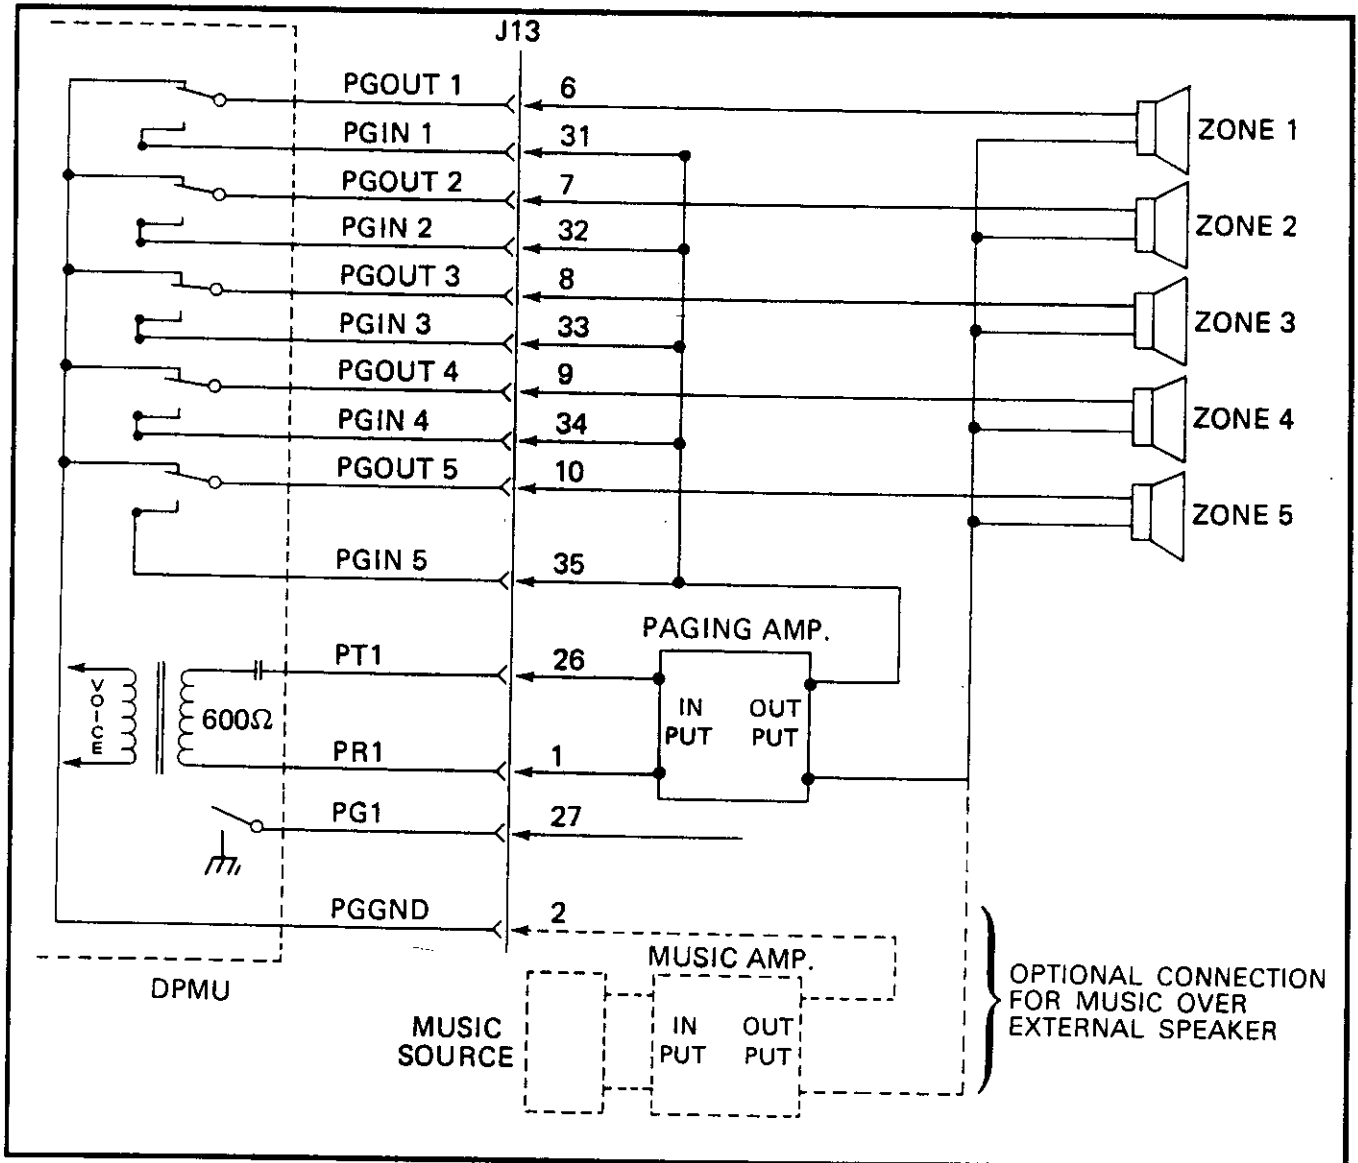

FIGURE 48—PAGING WITH ONE AMPLIFIER
- 1) If the music is supplied from a separate amplifier (as in Figures 48 & 49), it can be connected between the speaker common line and the PG GND input to the DPMU (J13 and pin #2). Music will be supplied to all speaker zones through the K1 ~ K5 relay "break" contacts, whenever there is no page in progress. When a page access code is dialed, the proper relay will operate, the music will be disconnected from that zone, and the page amplifier output will be connected.
- 2) If the music is connected to a second input of the paging amplifier (as in Figure 48), the PG1